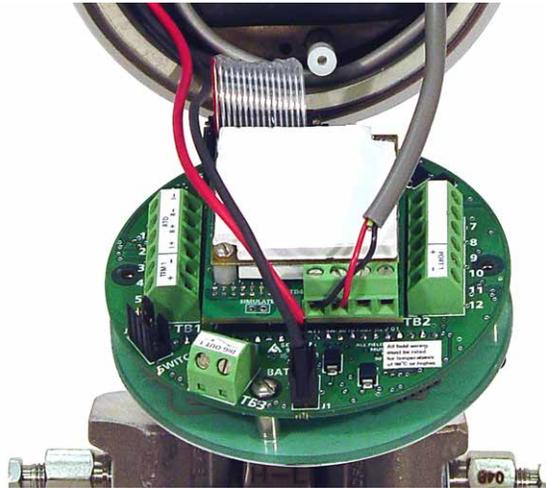

Figure C.9 - Removal of the battery cable and fieldbus interface board cable
2. Using a small standard blade screwdriver, remove the two #4-40 × 7/8-in. screws located to the right and left side of the display (Figure C.9).
5. Disconnect the fieldbus input cable from terminal block TB4 on the fieldbus interface board (Figure C.9).
6. Unplug the battery cable from connector J1 on the main board (Figure C.9).